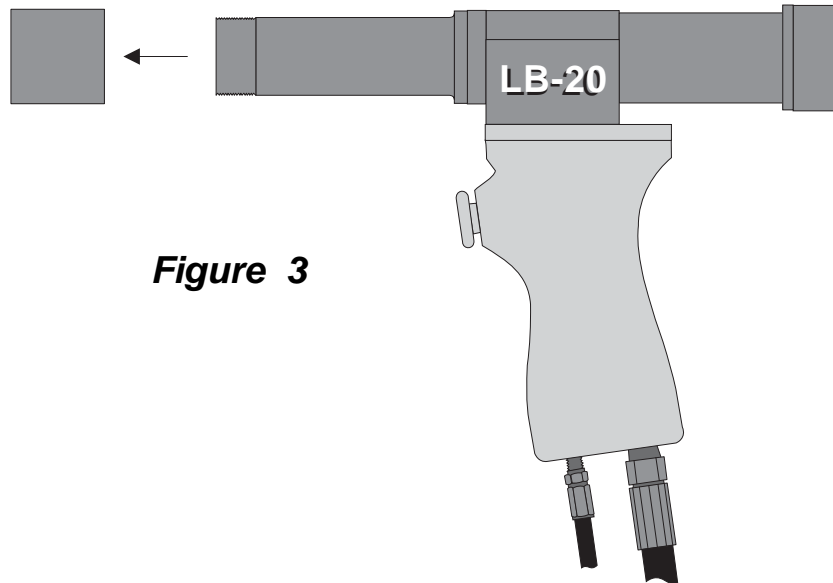

Figure 3
1. Remove the nosecap assembly from LB puller unit. (Figure 3)